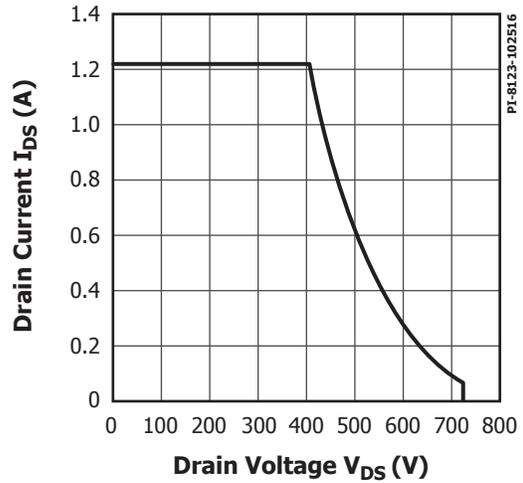

Figure 17. Maximum Allowable Drain Current vs. Drain Voltage.
2. See Figure 17, for $V_{DS} > 400\text{ V}$.
| D | Corrected DRAIN Pin Peak Current to match Figure 17 and Corrected Note 2 in Absolute Maximum Ratings. | 01/06/17 |